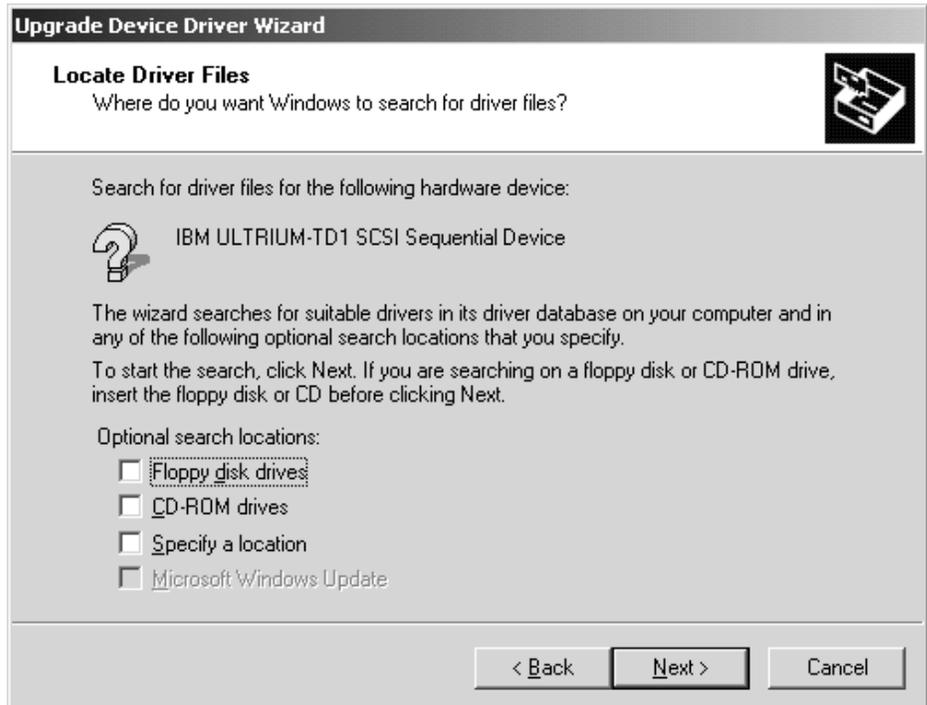

Figure 29. Locate Driver Files Menu
11. If you have completed steps 2 on page 158 through 4 on page 158, the Ultrium device drivers files should already be copied to your hard drive. Uncheck **Floppy disk drives** and **CD-ROM**, then click **Next**. See Figure 29.